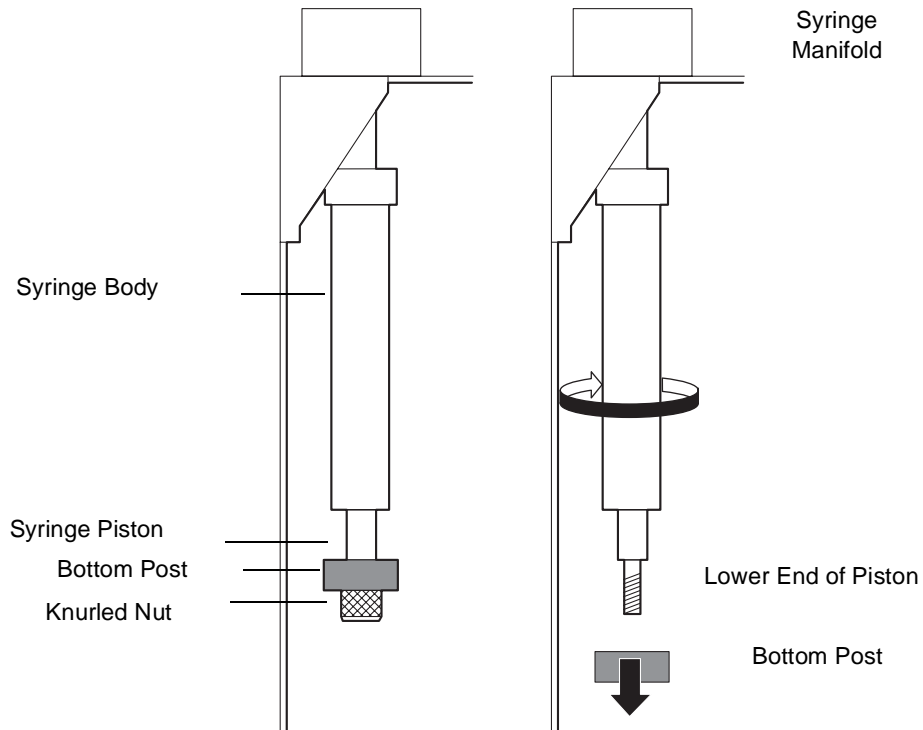

Figure 4-15 Removing the Syringe
4. Unscrew the knurled nut at the bottom of the syringe (Figure 4-15).